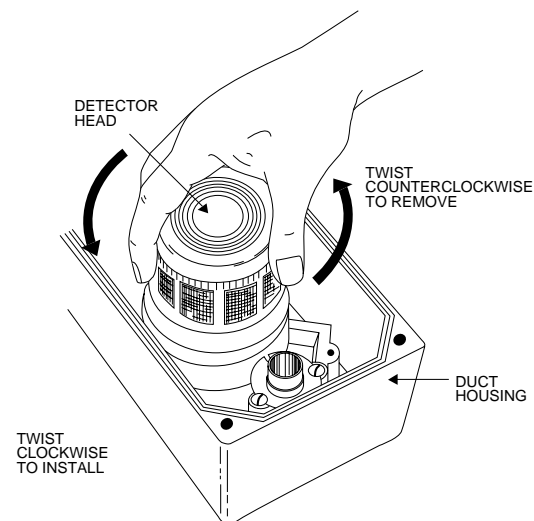

Figure 8. Detector Head Removal
The capability of Trouble detection is tested by removing the detector head from the duct housing. The detector head is removed by turning it counterclockwise about 10 degrees (Figure 8). The system control panel should indicate a trouble condition. Replacing the detector head should clear the trouble indication.
4. Remove the detector from its housing. (See Figure 8.)
- Remove the detector head from the duct housing as shown in Figure 8.